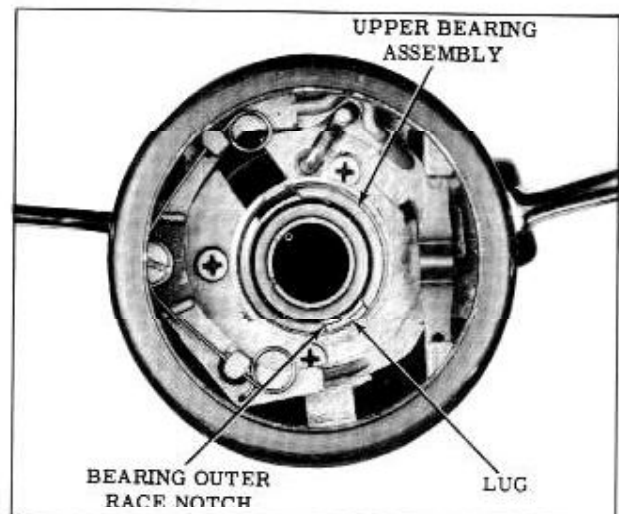

Fig. 4-25 Upper Bearing Position
20. Position bearing outer race notch over lug in inner diameter of the turn signal actuator frame. (Fig. 4-25)